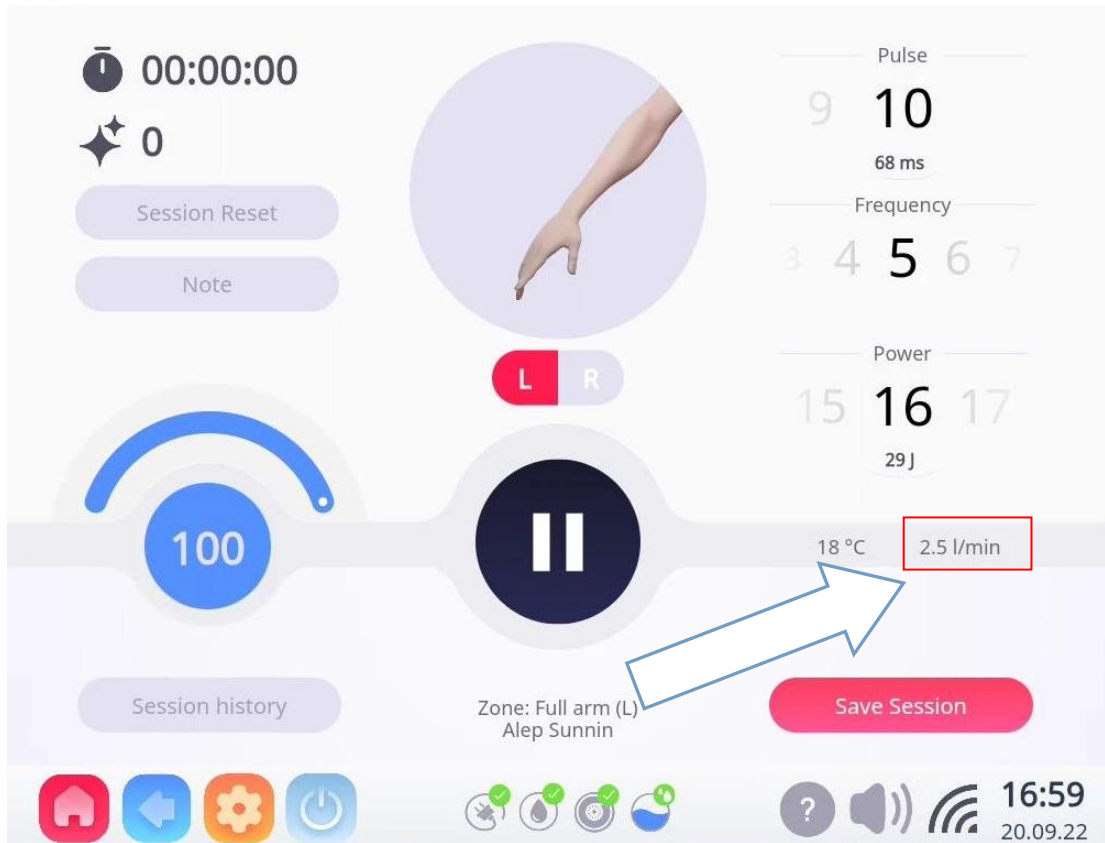

Figure 5.4-28
- Click "Fluid Movement" to turn on the water flow monitoring, which is reflected in this position (see Figure 5.4-28). (Normal value is 2.0 l/min or more). The factory default is on.